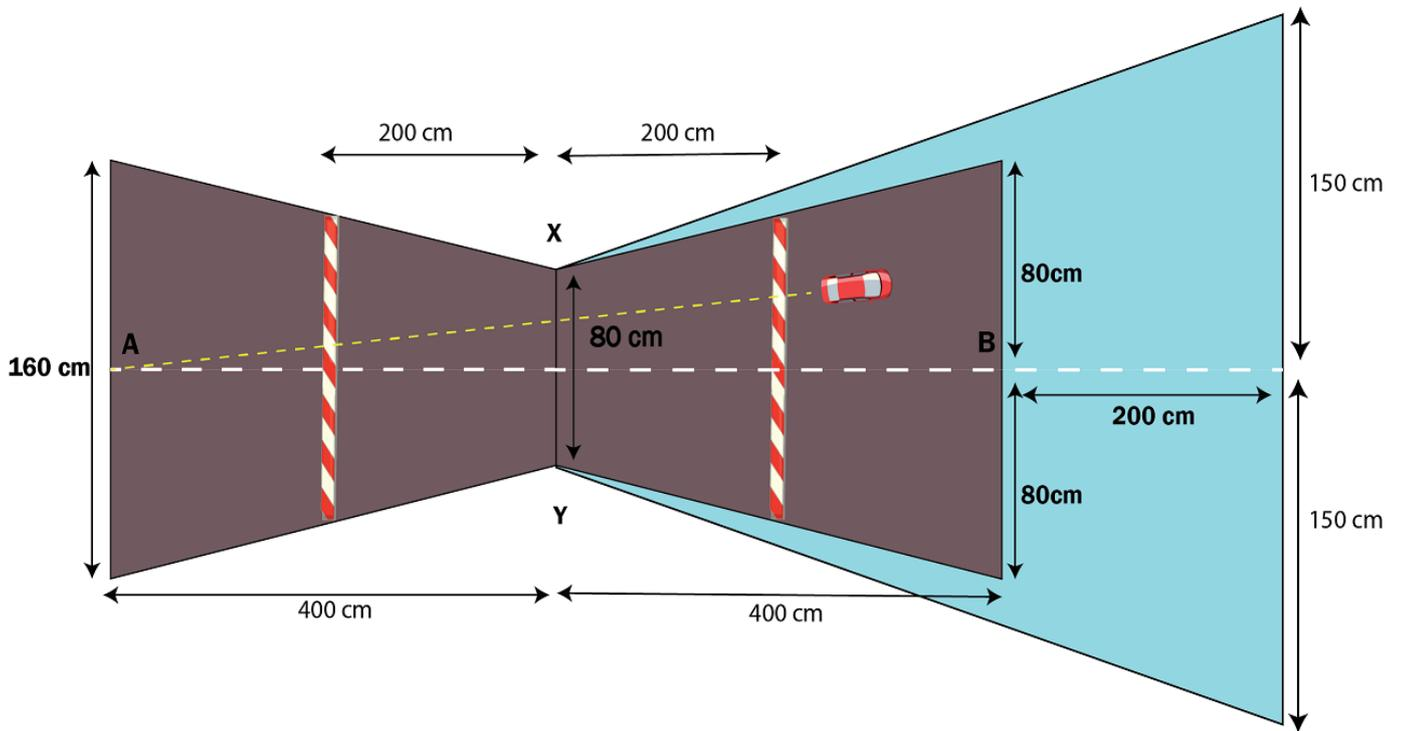

FIGURE 1
1) The straight track will be **800 cm** in length, marked in **grey**. As can be seen from Figure 1, the track would be tapered with two trapezoidal tracks combining at the shorter parallel edge to form a single track. The track is divided into 3 regions, and there is also an **Extra Region** marked in **blue**, the significance of which will be explained later. The outer width of the track is 160 cm, while the inner width at the intersection is 80 cm. The cars will start from point A on the central line and will try to complete the track. There will be **two obstacles** in the form of small cylindrical speed breakers (of approximate height 1-2cm), both at distances of 200 cm from the middle intersection line XY of the track. For better understanding of the track structure, refer to the figure **Figure 1**.